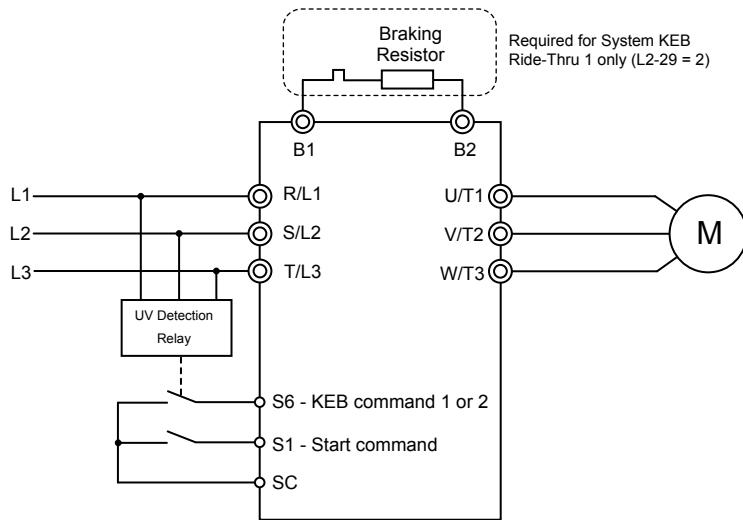

Figure 5.100 KEB Function Wiring Example
**Figure 5.100** shows a wiring example to trigger the KEB Ride-Thru at power loss using an undervoltage relay. When a power loss occurs, the undervoltage relay triggers KEB Ride-Thru at terminal S6 ( $H1-06 = 65, 66, 7A, 7B$ ). Note that using System KEB Ride-Thru requires an additional dynamic braking option.